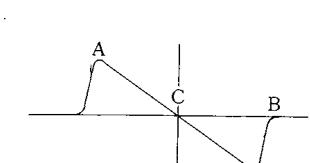

Fig. 7
- (5) Adjusting the secondary core (upper) of T202, obtain an S-curve as shown in Fig. 7. Then adjust the primary core (lower) of T202 to make the amplitude of the S-curve maximum with points A and B symmetrical with respect to point C and the slope as linear as possible.
- (6) Connect a DC balance meter with TP.3 through a 100k ohms resistor. Adjust the secondary core (upper) of T202 so that the DC balance meter indicates OV.
- (7) Connecting the DC balance meter to TP.3 through a 100k ohms resistor, tune the FT-340. to 98MHz with the tuning knob so that the DC balance meter indicates OV.